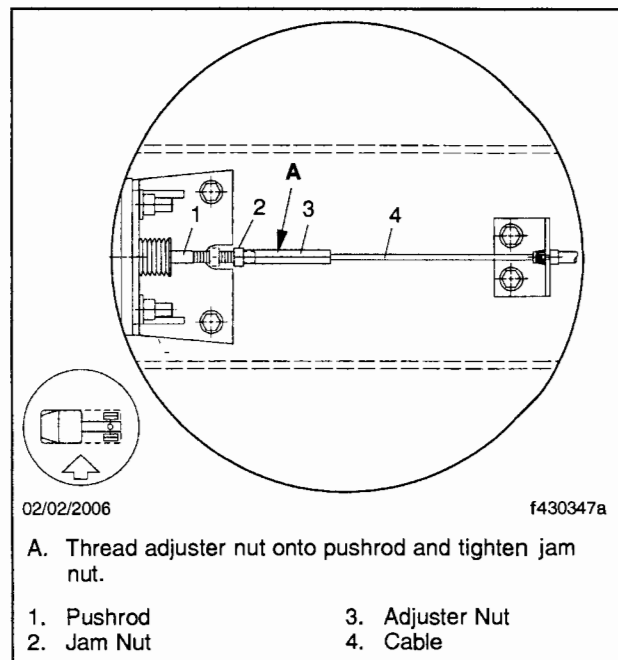

Fig. 11, Air-Actuated Parking Brake Cable Adjustment
- 24.5 Thread the adjuster nut onto the pushrod and against the jam nut. Tighten the jam nut. See **Fig. 11**.